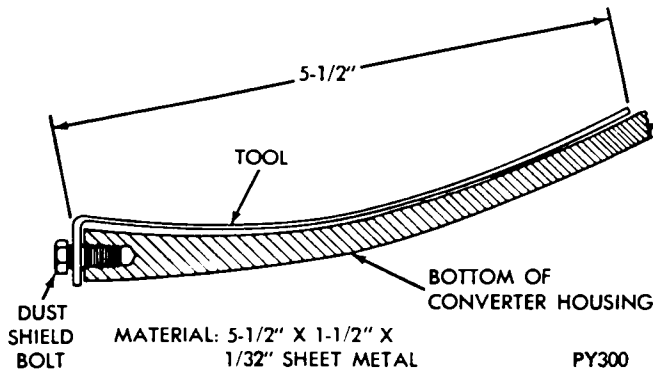

Fig. 4—Leak Locating Test Probe Tool
(1) Remove torque converter housing dust shield.
(2) Position vehicle with front lower than back so that accumulated fluid in torque converter housing will drain out. Wipe inside of torque converter housing as dry as possible. A solvent spray followed by compressed air drying is recommended.
(3) Fabricate and fasten test probe (Fig. 4) securely to convenient dust shield bolt hole. Make certain torque converter is cleared by test probe. Tool must be clean and dry.
(4) Run engine at approximately 2,500 rpm with transmission in neutral, for about 2 minutes. Transmission must be at operating temperature.
(5) Stop engine and carefully remove tool.
(6) If upper surface of test probe is dry, there is no torque converter leak. A path of fluid across probe